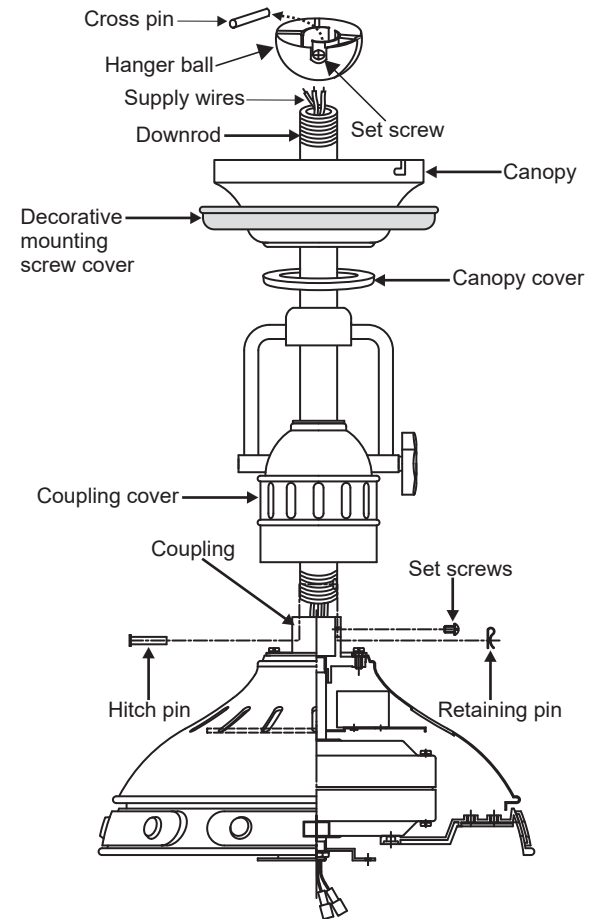

Fig. 7
Step 1. Remove the hanger ball from the downrod assembly by loosening the set screw, removing the cross pin and sliding the ball off the rod. (Fig. 7)
Step 2. Loosen the two set screws and remove the hitch pin and retaining clip from the coupling on top of the motor assembly. (Fig. 7)
Next, replace the hitch pin and retaining clip. Tighten both set screws. (Fig. 7)
Thread the hanger ball onto the downrod, insert the cross pin through the downrod and tighten. Now tighten the set screw. (Fig. 7)